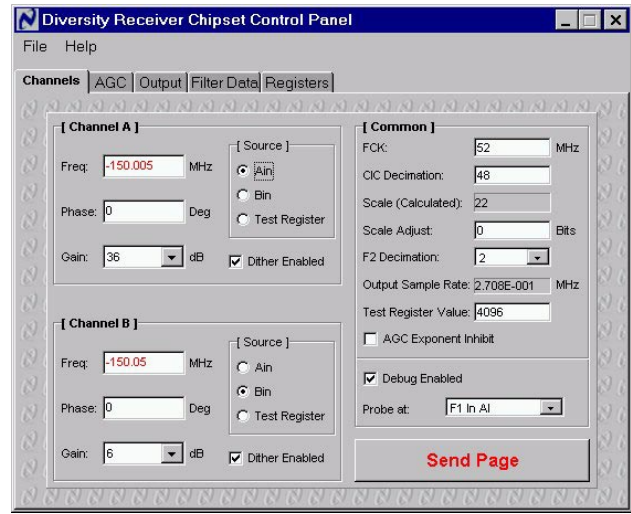

Figure 36 DRCS Channel Configuration, Saturation
6. Go back to the **Channels** page of the DRCS Control Panel and change **Scale Adjust** back to 0. Next, select **36dB** from the **Gain** pulldown menu in the **Channel A** box. The screen should look like Figure 36. Click on **Send Page**.